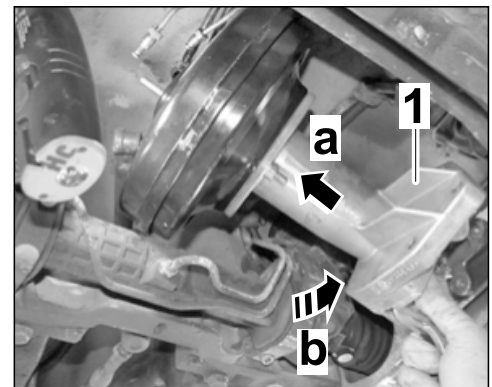

Figure 23
- 7.1 Insert mounting saddle with brake booster ⇒ *Figure 23-1-* (⇒ *Figure 23-a-*) and swivel it up ⇒ *Figure 23-b-*.